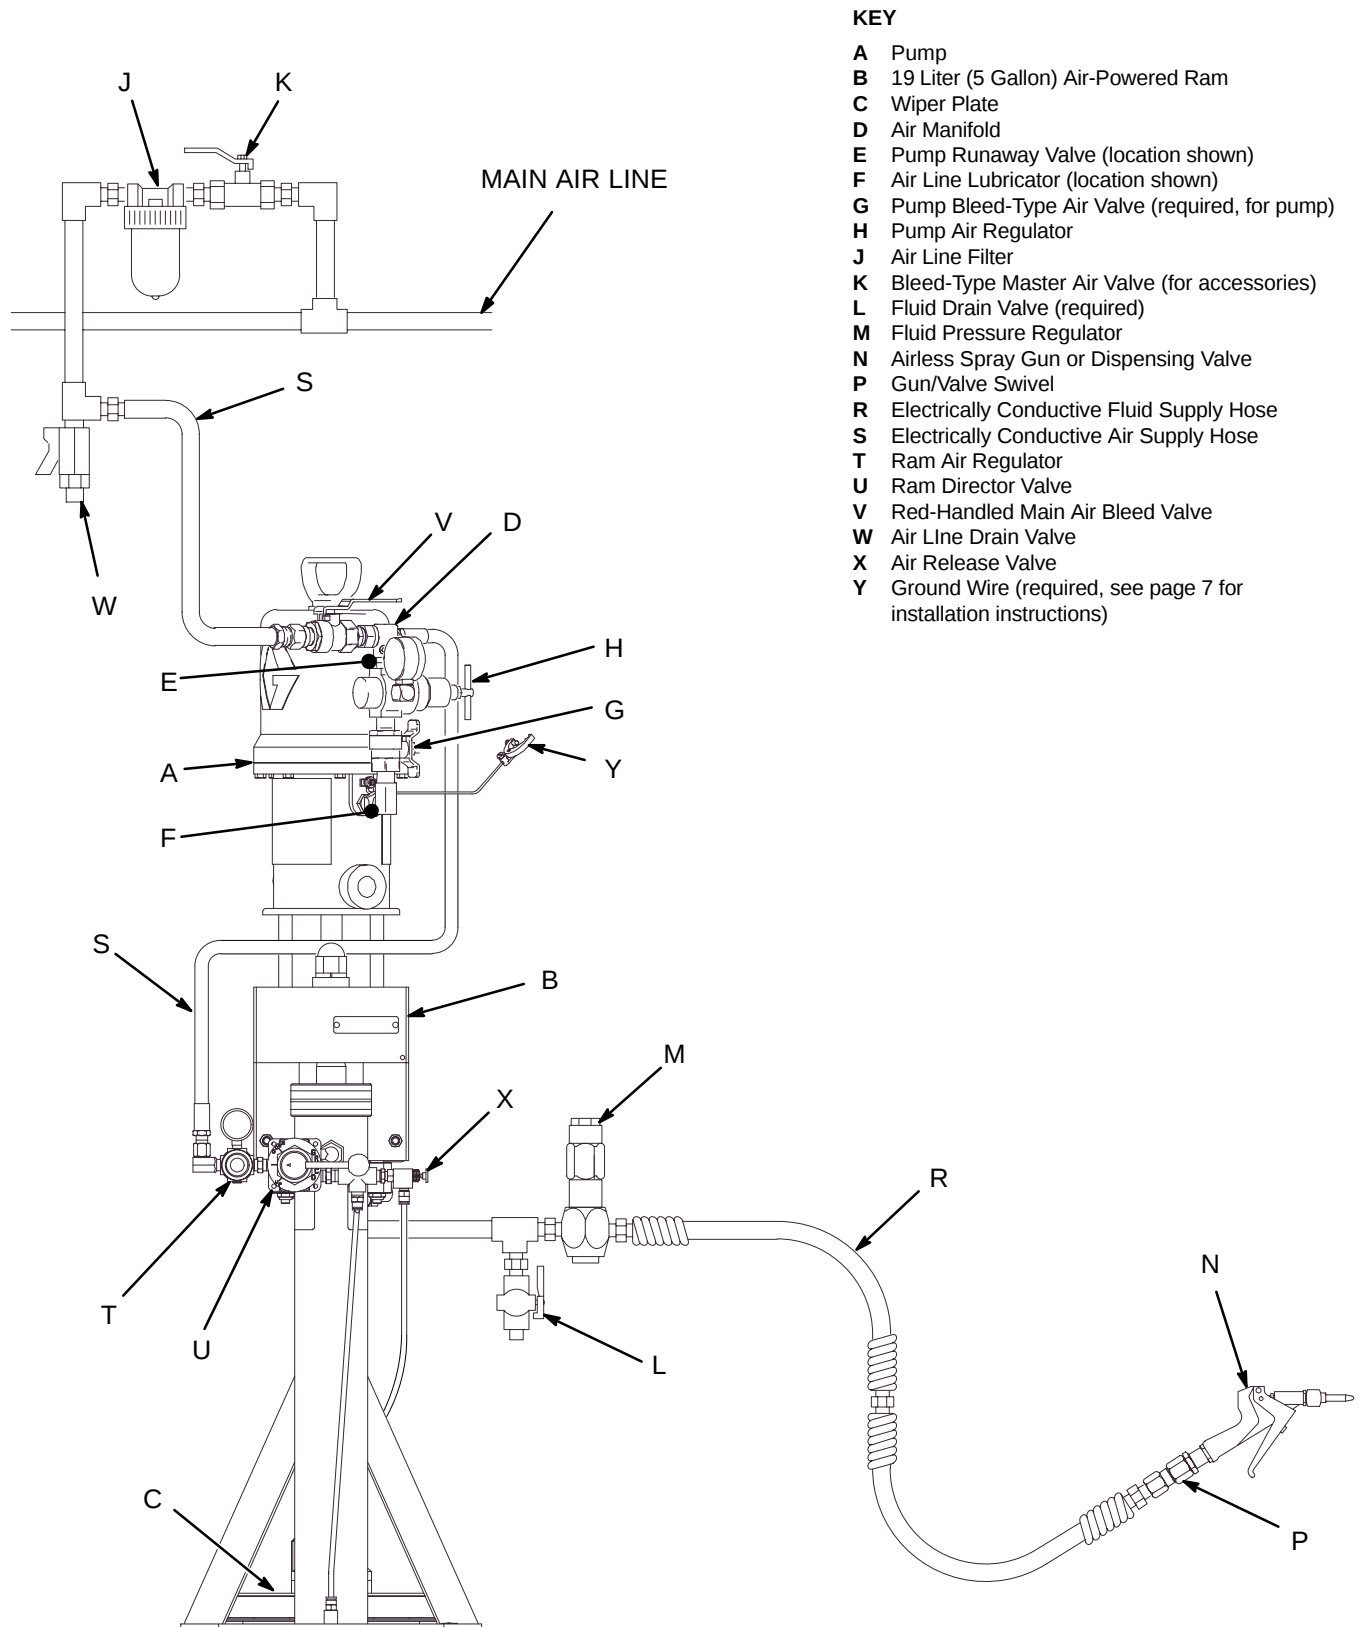

Fig. 2
Fig. 2 is only a guide for selecting and installing system components and accessories. Contact your Graco distributor for assistance in designing a system to suit your particular needs.
Refer to Fig. 2.
Install the following accessories in the locations shown in Fig. 2, using adapters as necessary:
- **A fluid drain valve (L)** is required in your system to relieve fluid pressure in the hose and gun/valve (see the **WARNING** at left). Screw the drain valve into the open branch of a tee mounted in the fluid line. Install the drain valve pointing down, but so the handle will point up when opened.
- **A fluid regulator (M)** controls fluid pressure to the gun/valve, and dampens pressure surges.
- **A gun or valve (N)** dispenses the fluid. The gun shown in Fig. 2 is a dispensing gun for highly viscous fluids.
- **A gun swivel (P)** allows freer gun/valve movement.